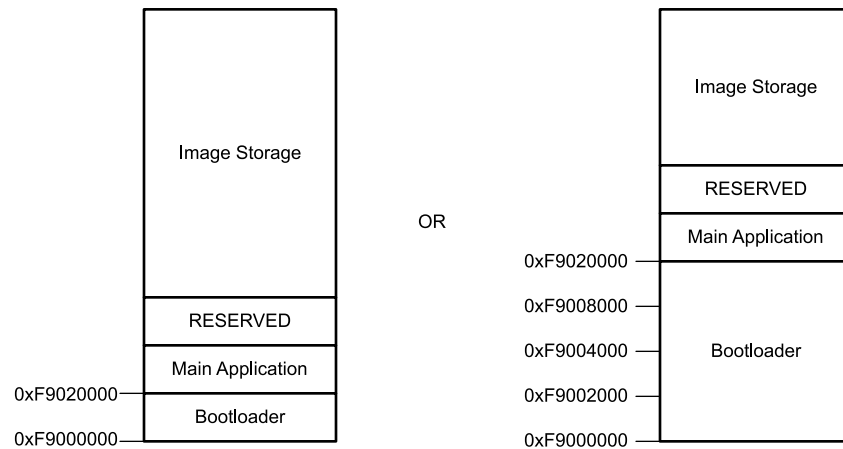

図 7-2. Boot Flash Memory Layout
All applications require both the controller and DMD components for reliable operation. The system uses an external parallel flash memory device loaded with the DLPC900 configuration and support firmware. The external boot flash must contain a minimum of 2 sectors, where the first sector starts at address 0xF9000000 which is the power-up reset start address. The first 128-kilobytes is reserved for the bootloader image and must be in its own sector and can be made up of several smaller contiguous sectors that add up to 128-kilobytes as shown in 図 7-2. The remaining sectors contains the rest of the firmware. The default wait-states is set for a flash device of 120-ns access time. For a faster flash access time, refer to the セクション 7.2.1.2.1.4.2 on how to program new wait-state values.
- PM_CSZ_1 – dedicated CS for boot flash device (≤ 16 -megabytes). Refer to the Figure 7-2 for the memory layout of the boot flash.